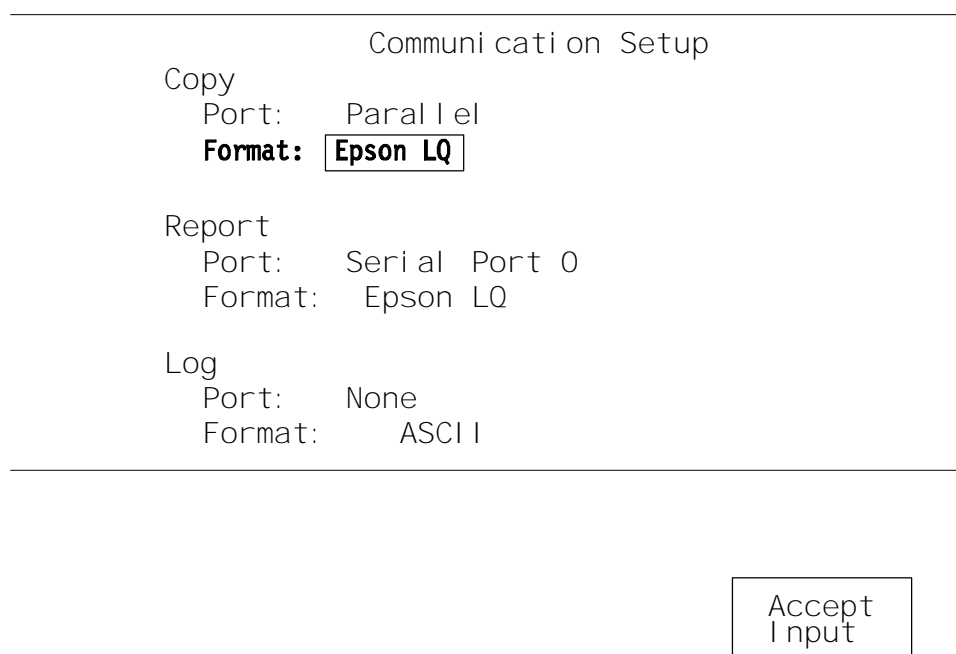

Figure 2-9: Communication Setup file with Copy Format selected
1. Select the parameter you wish to change by rotating the knob until the parameter is highlighted, then touching the screen over the parameter value. A box appears around the item to edit (see Figure 2-9).